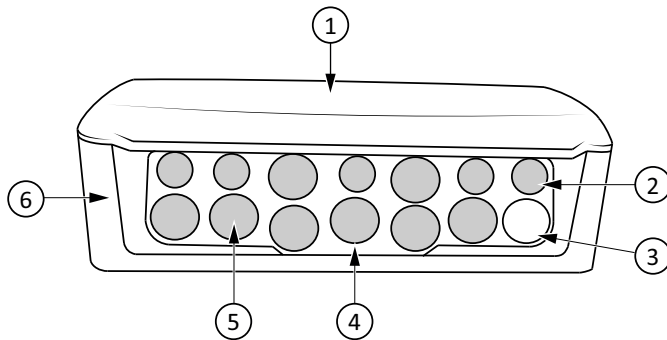

Figure 4-2 Cabinet cable gland templates
1. Pierce a hole that is smaller than the cable diameter through the soft part of the cable gland (see *Figure 4-2*) with a circular object, such as a Phillips head screwdriver or an awl.
1. Mount the damper unit on a stable, vibration-free surface. It can be mounted horizontally with the lid up (No 1 in *Figure 4-2*) or vertically with the cable front (No 2 in *Figure 4-2*) of the unit pointing down.